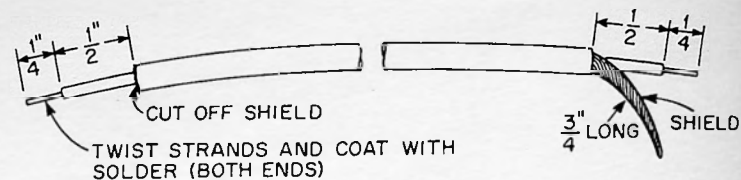

FIGURE 21. CABLE PREPARATION
- Prepare a 7" and a 9 1/2" length of shielded cable as shown in Figure 21.